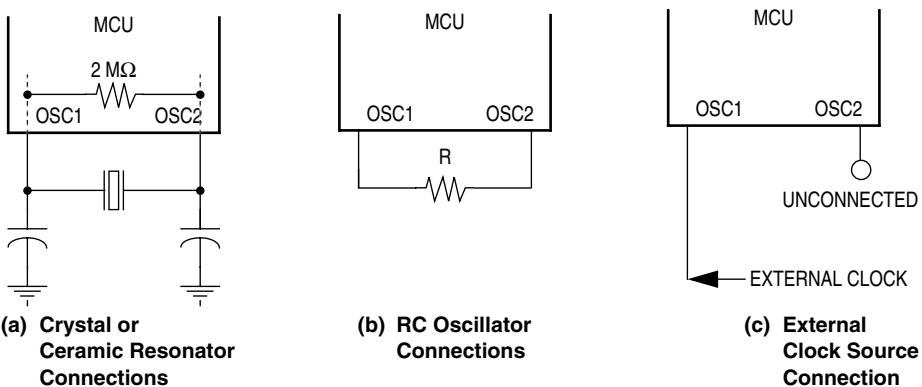

Figure 1-3. EPO Oscillator Connections
1. A crystal as shown in Figure 1-3 \(a\)
2. A ceramic resonator as shown in Figure 1-3 \(a\)
3. An external resistor as shown in Figure 1-3 \(b\)
4. An external clock signal as shown in Figure 1-3 \(c\)
The circuit in **Figure 1-3 (a)** shows a typical oscillator circuit for an AT-cut, parallel resonant crystal. The crystal manufacturer's recommendations should be followed, as the crystal parameters determine the external component values required to provide maximum stability and reliable startup. The load capacitance values used in the oscillator circuit design should include all stray capacitances. The crystal and components should be mounted as close as possible to the pins for startup stabilization and to minimize output distortion. An internal startup resistor of approximately $2\text{ M}\Omega$ can be provided by the shunt resistor mask option between OSC1 and OSC2 for the crystal type oscillator. The crystal configuration is enabled by choosing the crystal selection in the oscillator connections mask option.
In cost-sensitive applications, a ceramic resonator can be used in place of the crystal. The circuit in Figure 1-3 \(a\) can be used for a ceramic resonator. The resonator manufacturer's recommendations should be followed, as the resonator parameters determine the external component values required for maximum stability and reliable starting. The load capacitance values used in the oscillator circuit design should include all stray capacitances. The ceramic resonator and components should be mounted as close as possible to the pins for startup stabilization and to minimize output distortion. An internal startup resistor of approximately $2\text{ M}\Omega$ can be provided by the shunt resistor mask option between OSC1 and OSC2 for the ceramic resonator type oscillator. The ceramic resonator configuration is enabled by choosing the crystal selection in the connections oscillator mask option.
The lowest cost oscillator is the RC oscillator configuration where a resistor is connected between the two oscillator pins as shown in Figure 1-3 \(b\). The internal startup resistor of approximately $2\text{ M}\Omega$ is not recommended between OSC1 and OSC2 for the RC-type oscillator.
An external clock from another CMOS-compatible device can be connected to the OSC1 input, with the OSC2 input not connected, as shown in Figure 1-3 \(c\). This configuration is possible regardless of whether the crystal/ceramic resonator or RC oscillator configuration is used.